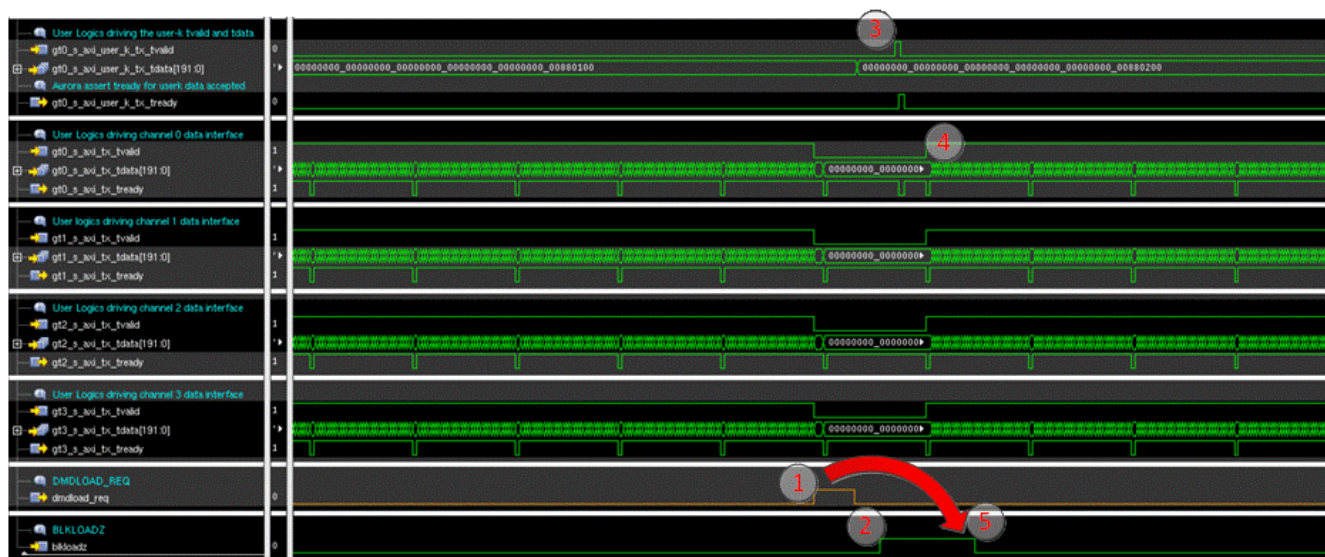

Figure 7-5. End of Block DMDLOAD_REQ Assertion Followed by New Block Control Word Waveform
- Refer to 図 7-5. In most cases, after the APPS FPGA user logic has completed the transfer of the current data block, it may find that the DLPC964 Controller is still loading the previous block to the DMD (i.e. BLKLOADZ is low). If this occurs, the APPS FPGA can still assert DMDLOAD_REQ while BLKLOADZ is low. The DLPC964 Controller will detect and store the DMDLOAD_REQ request and perform the data load as soon as the transfer of the previous data block is complete.
- The DLPC964 Controller has two data-block buffers - one for receiving the incoming Aurora data block from the APPS FPGA, and the other for holding the previous data block for streaming out to the DMD. Care must be taken by the APPS FPGA to avoid overrunning these two buffers. Refer to Figure 7-5. After completing the current Aurora data transfer of block data and asserting the DMDLOAD_REQ signal, the APPS FPGA must wait for the de-assertion of BLKLOADZ by the DLPC964 Controller (i.e. BLKLOADZ transition from low to high) before starting the next block data transfer. De-assertion of BLKLOADZ indicates that the DLPC964 Controller has completed the DMD data loading operation for previous block, and a data buffer is freed up for accepting a new data block from the Aurora interface. The buffer will be overrun and data will be incorrectly loaded to the DMD if the APPS FPGA does not synchronize the Aurora block data transfer with BLKLOADZ signal de-assertion.